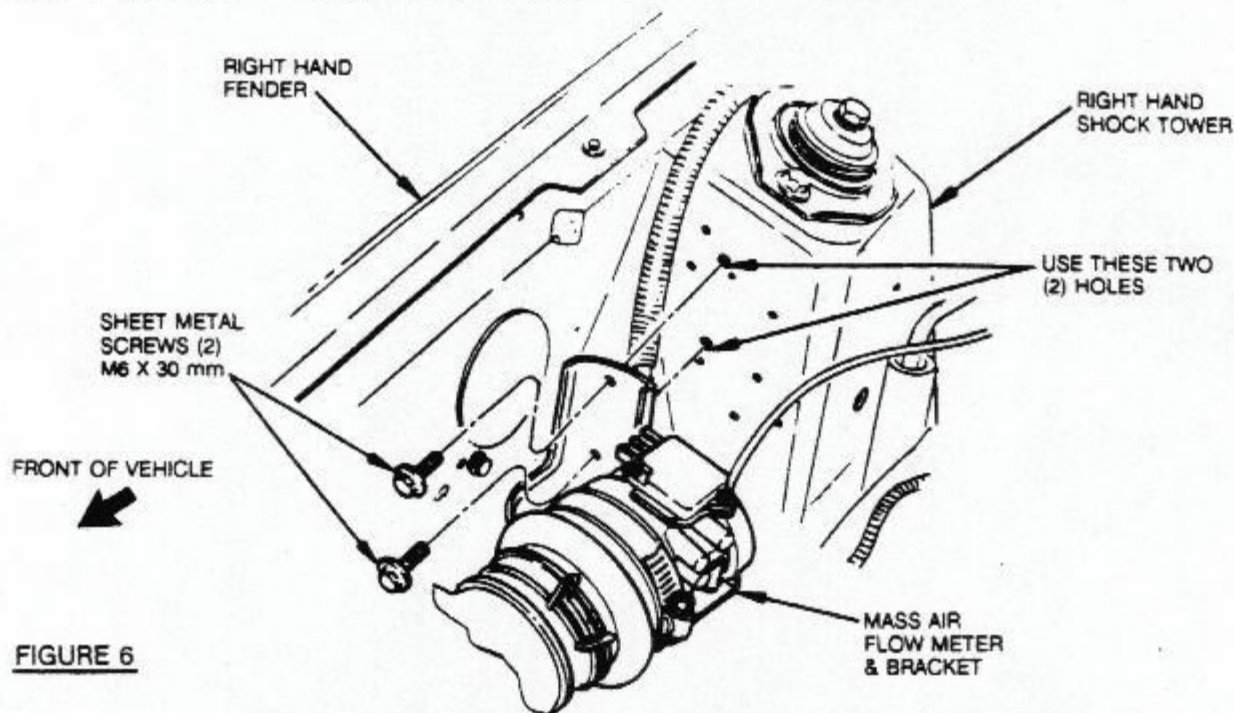

FIGURE 6
STEP 9 Attach the MAF bracket to the shock tower with the screws provided as shown in figure 6.